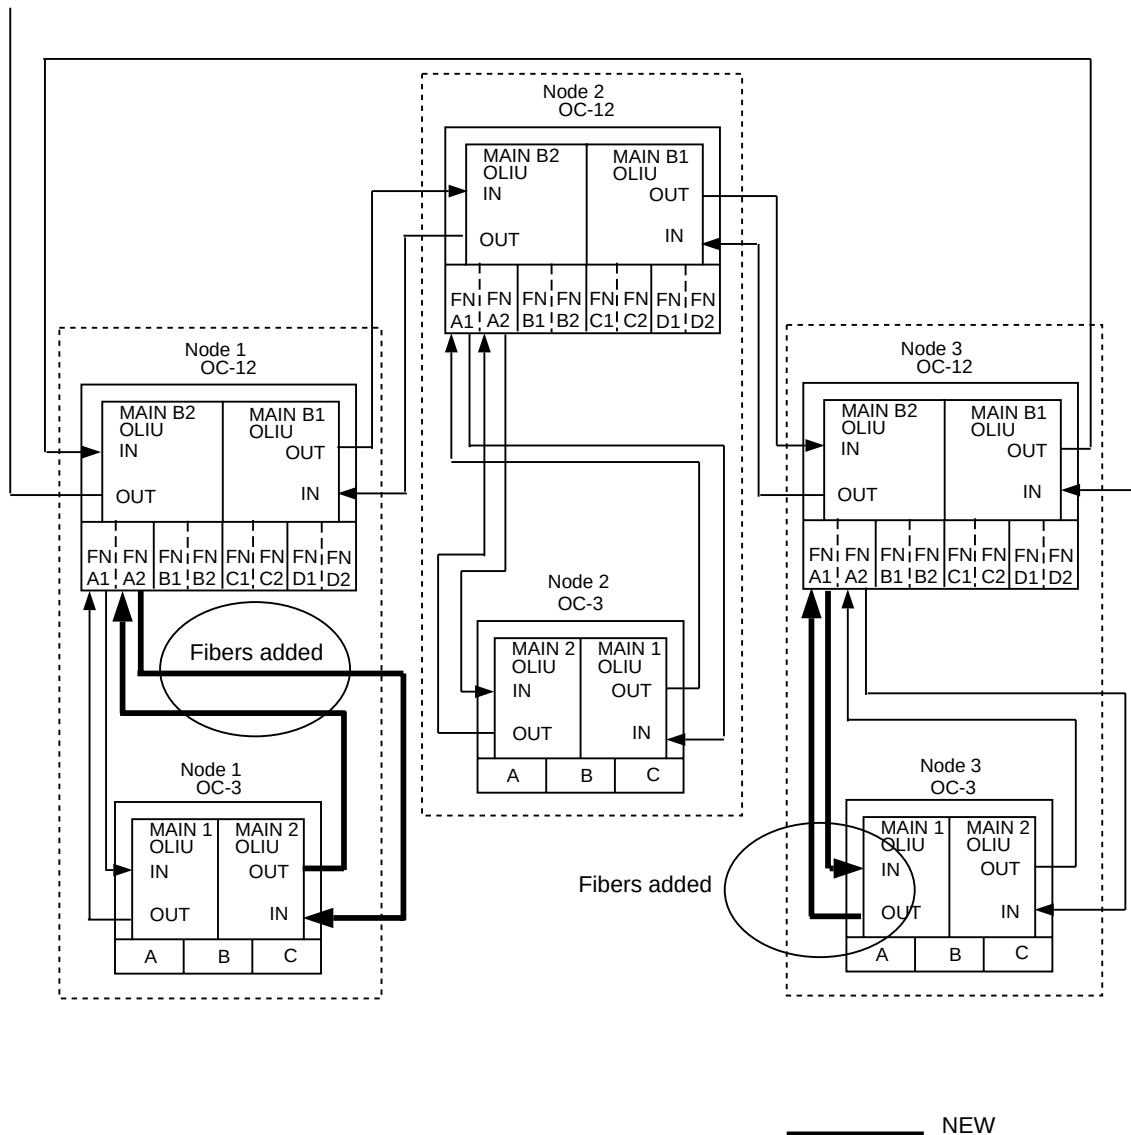

Figure 7. Example of OC-3 to OC-12 Ring Upgrade (7 of 7)
MAIN 1 slot to OC-12 **FN-()-1**. See Figure 7.
MAIN 2(P) slot to OC-12 **FN-()-2(P)**. See Figure 7.